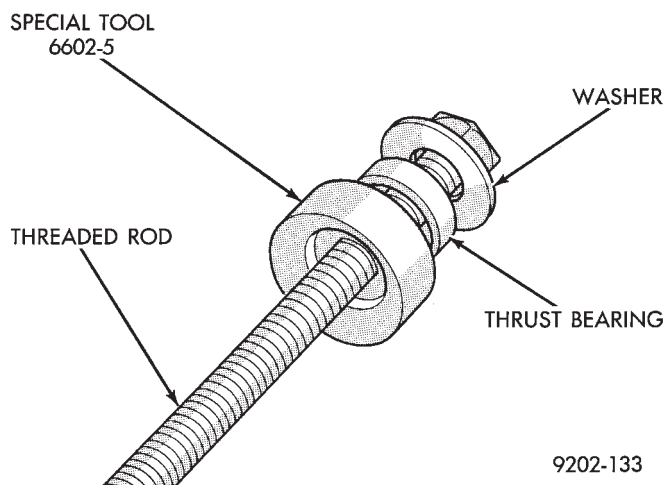

Fig. 3 Bushing Removal Tools
(1) Position and clamp lower control arm in a vise.
(2) Assemble the washer, thrust bearing and large bushing disk, Special tool 6602-5 onto the threaded rod from Bushing Remover/Installer, Special Tool 6602 (Fig. 3).